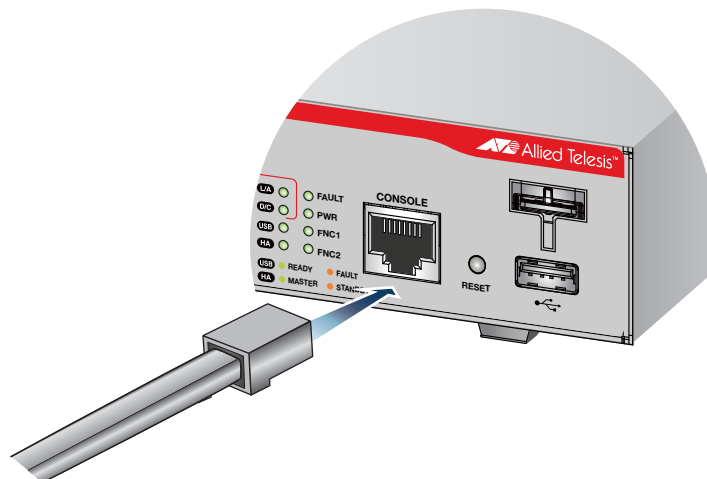

Figure 33. Connecting the Management Cable to the Console Port
1. Connect the RJ-45 connector on the management cable to the Console port on the front panel of the router, as shown in Figure 33.